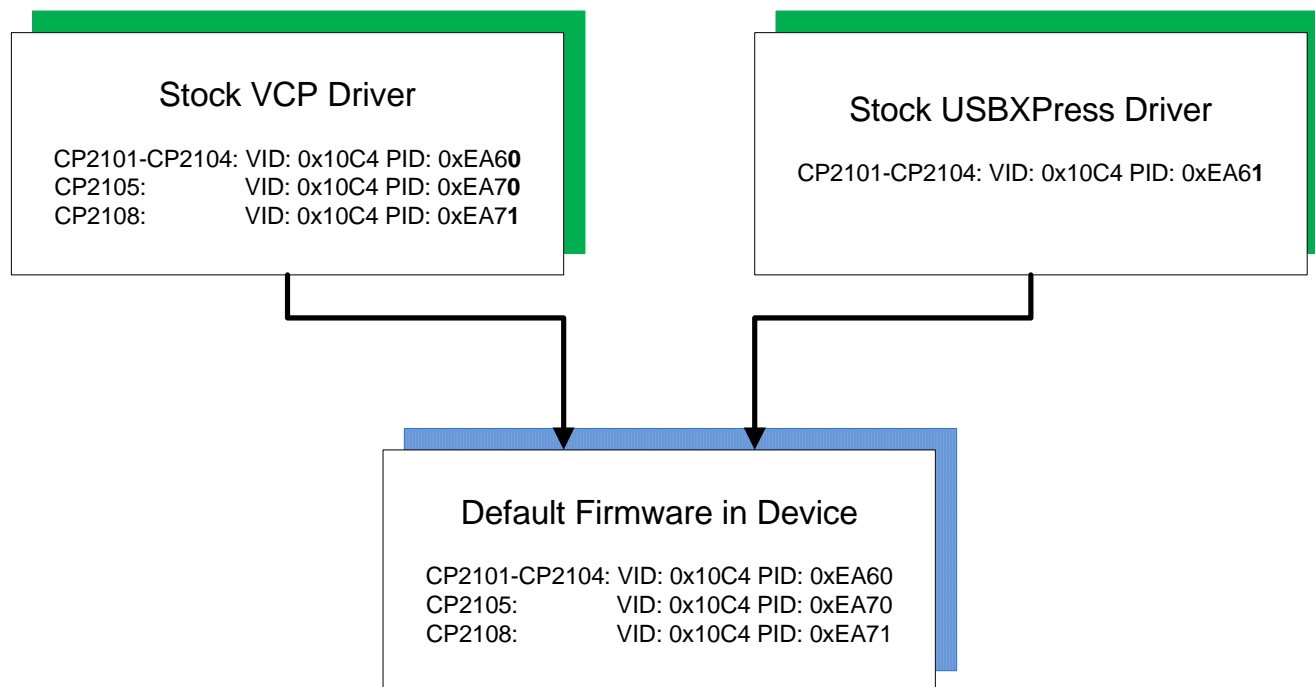

Figure 1. Default VID and PID Values for Driver vs Firmware
Figure 1 shows the default VID and PID values for the device and drivers. To establish communication with the driver, the VID and PID of the device must match the driver. Notice that the default CP210x device VID and PID match the default VCP driver VID and PID numbers.
4. **(USBXpress Users Only):** If the desired driver is USBXpress, it can be download here: www.silabs.com/usbxpress. This driver allows direct access using Silicon Labs API commands to control the device. When this driver is initially downloaded it will not have the matching VID/PID of the CP210x devices. See Figure 1 for the default driver and device VID/PID.